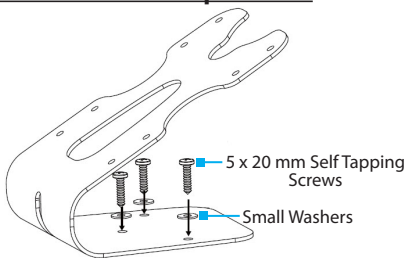

Figure 8
6. Insert the **Screw Assemblies** (x 3) through the **Angled Bracket** and into the **Tabletop** and tighten, using a **Phillips Head Screwdriver**. (Figure 8)